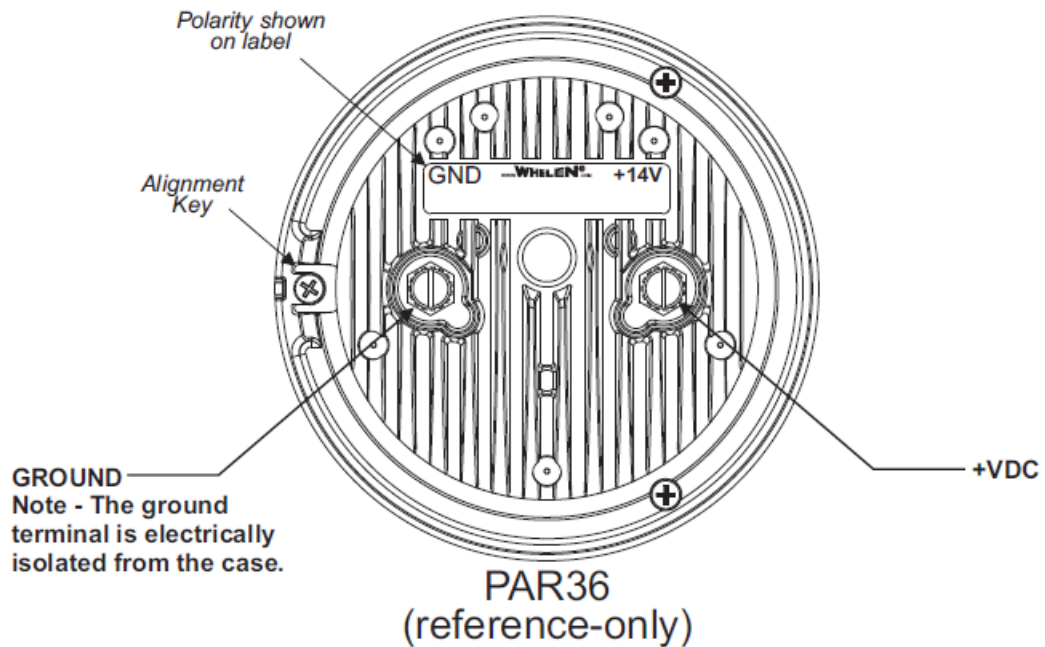

Figure 10.1 – Typical PAR36 LED Light
- 10.1.1 REMOVAL - Refer to Figures 10.1 and 10.2.
- 10.1.2 INSTALLATION - Refer to Figures 10.1 and 10.2.